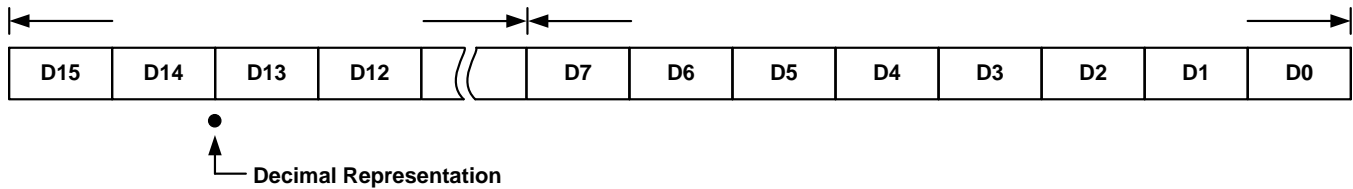

Figure 22. Binary Representation of Gain Correction Factor
5. **LUT Data Entry:** Each GCF needs to be converted from decimal to a 16 bit binary word representing a decimal number between 0 and 4. An example illustrating this binary representation of the decimal number is shown in Figure 22. The conversion equation that scales the GCF into the 16 bit binary GCF_{BINARY} is shown in Equation 1. Once the conversion has been calculated for each temperature the values are programmed into the appropriate registers in the LUT. The MSB of the LUT value consists of bits D15 to D8 as shown in Figure 22, the LSB are bits D7 to D0.